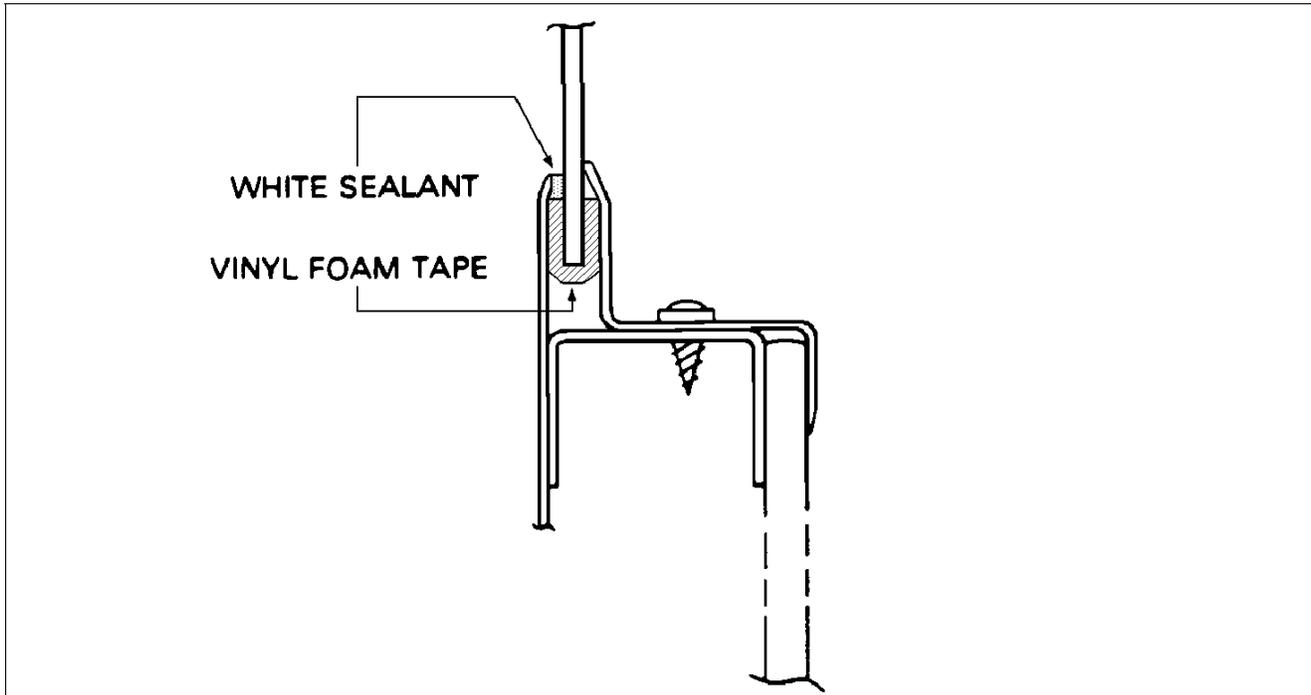

Figure 56-2. Side Window Installation
1. REMOVAL. (Refer to Figure 56-2.)
2. INSTALLATION. (Refer to Figure 56-2.)
- d. Apply polyurethane, urethane, acrylic, or polysulfide sealant (see Chart 9105, Sealant - Window and Airframe) completely around the outer surface of the window at all attachment flanges as indicated in Figure 56-2. Force the sealant between the mating parts, which may be separated slightly using a soft wooden wedge or a tongue depressor. Force sealant deep into the gap. Take care to avoid bending or scratching aluminum or window surfaces. Joints should be completely filled, and blended smoothly with adjacent surfaces after clean-up.